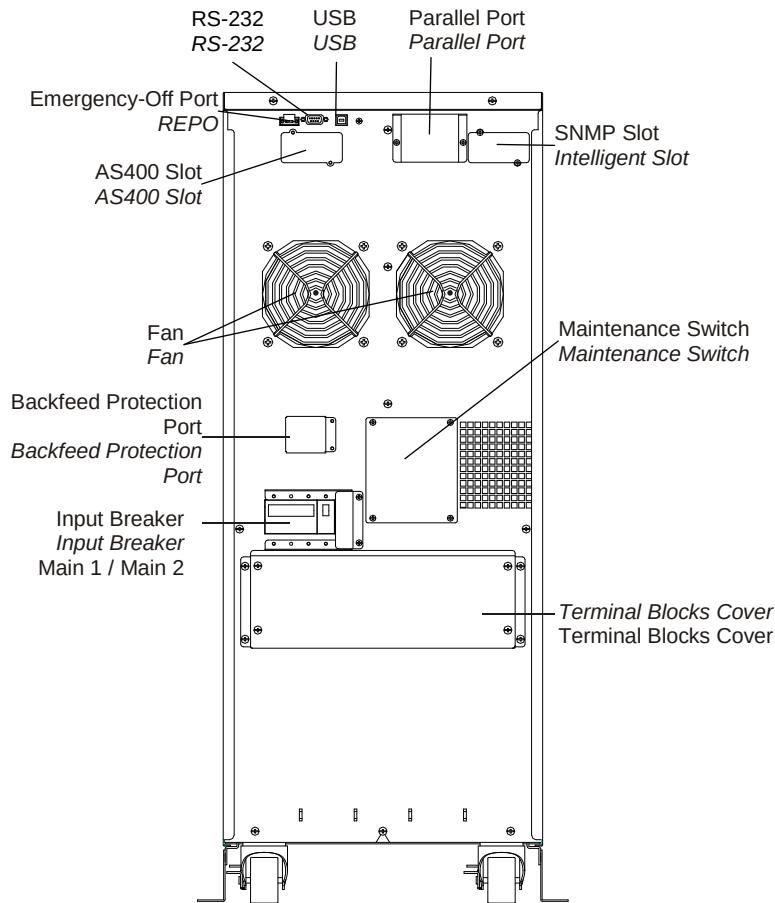

Figure 26: Communication options XANTO S 10000 3/1
To facilitate communication between the UPS system and a computer, connect the computer using a suitable data cable (RS-232 cable, included in the scope of supply) to one of the communication ports of the UPS. Figure 26 shows the position of the communication ports.
The XANTO S is equipped with two slots (see Figure 26) for the following interface cards:
7. Remove the cover with the labelling "Maintenance Switch" on the rear side of the UPS system (see Figure 26). Now turn the maintenance switch from the UPS position to the BYPASS position.